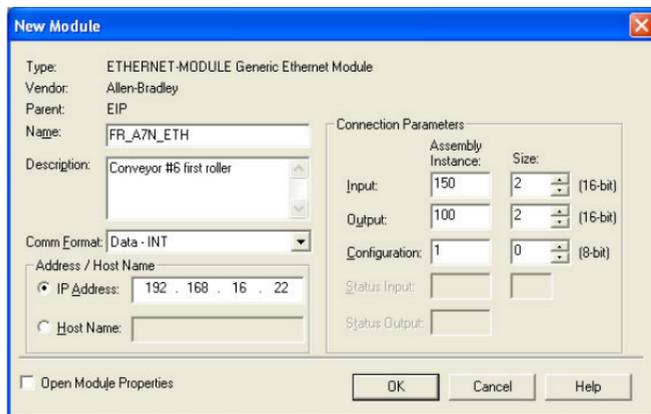

Figure 78: Interface Card Module Properties
- 4) The module properties dialog box will open (refer to Figure 78). Enter a Name and Description which will allow easy identification of the inverter on the network (the tags created in RSLogix 5000 will be derived from this Name). Because all inverter data is stored as 16-bit registers, change the “Comm Format” selection to “Data-INT”. Enter the IP address of the targeted interface card.